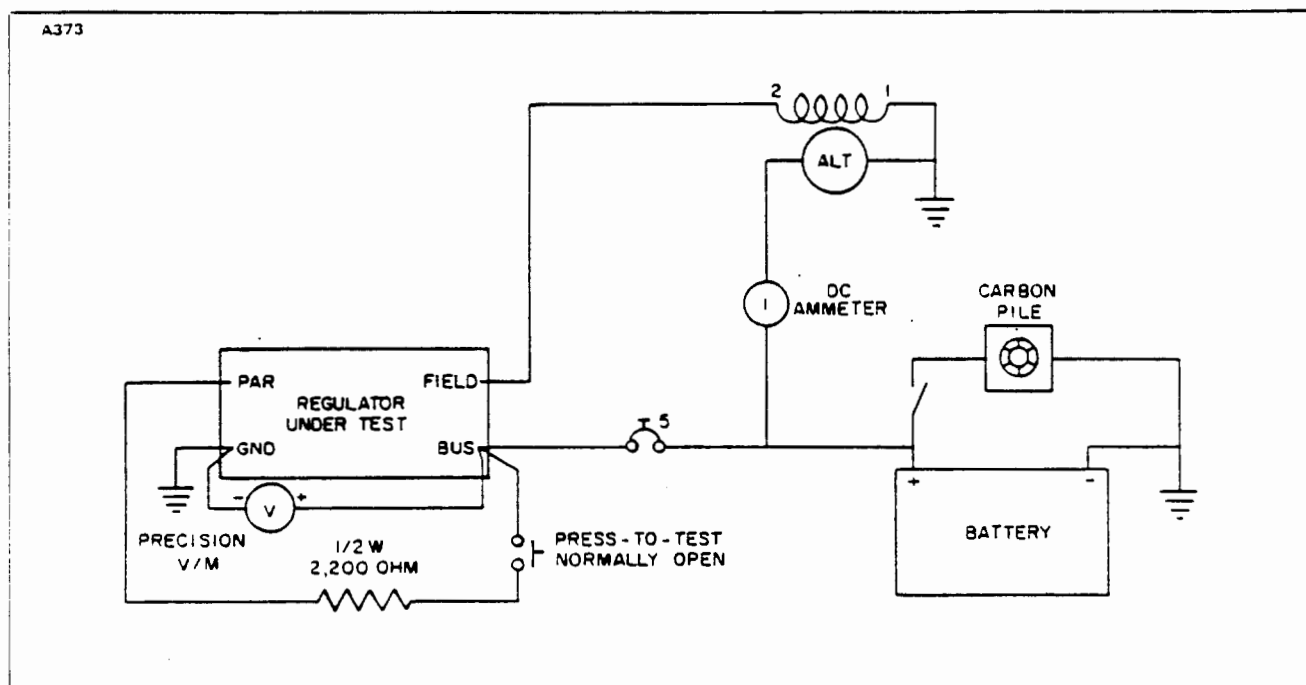

Figure 24-5. Testing Regulator (LAMAR)
1. The procedure for testing the regulator, whether on the airplane or on the test bench, remains the same. Connect the test meters and regulator wiring as shown in Figure 24-5.
4. With the connections made as shown in Figure 24-5, start the engine and adjust its speed to approximately 920 to 1250 RPM to obtain 3,000 to 4,000 alternator RPM. Turn on accessories as needed to establish a 10 to 15-ampere load value. Note that the battery charge current is indicated by the ammeter. Therefore, the current value may change downward at the beginning of a test run. This will be especially true if the battery was used for engine starting.